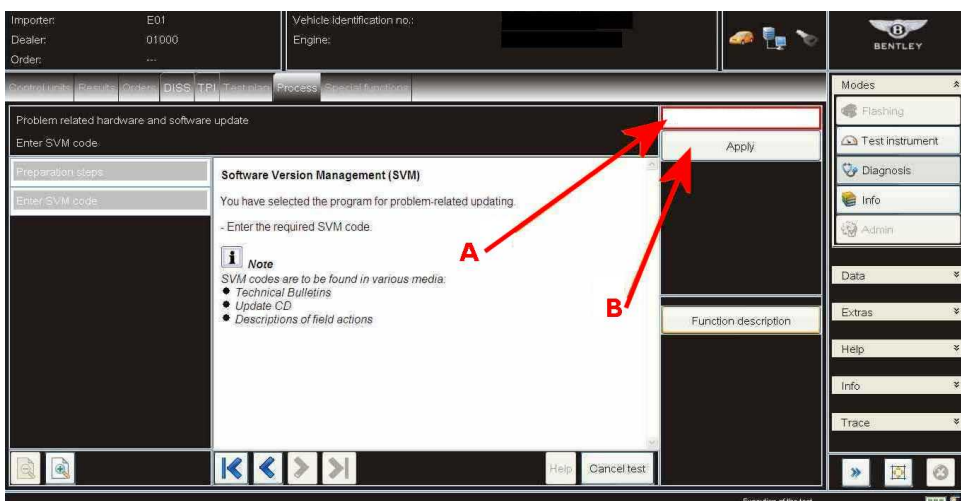

Figure 4
- Once at Figure 4, please insert the SVM code 39038REPLACE01 (point A) and select Apply/Adopt_(point B) and follow all on screen prompts